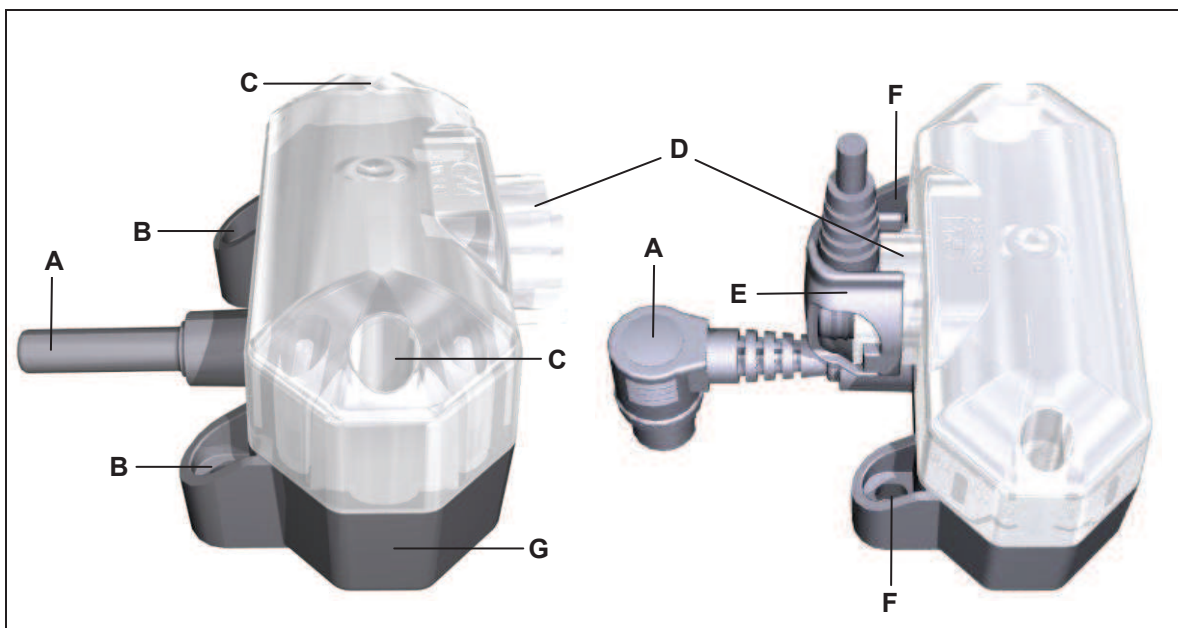

Figure 2 Floor lighting lamp, with handset socket
- 4 Connect the handset plug to the handset socket on the floor lighting (if available, refer to Figure 2).